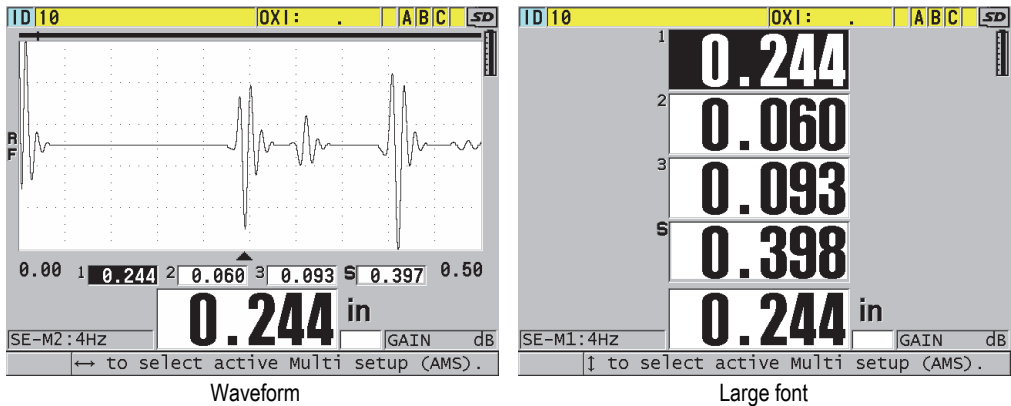

Figure 7-8 Multi-measurement display modes with three layers and the sum
- d) Set **DISPLAY MODE** to (see Figure 7-8 on page 119):
- c) Set **DISPLAY MODE** to **WAVEFORM** or **LARGE FONT** (see Figure 7-8 on page 119).